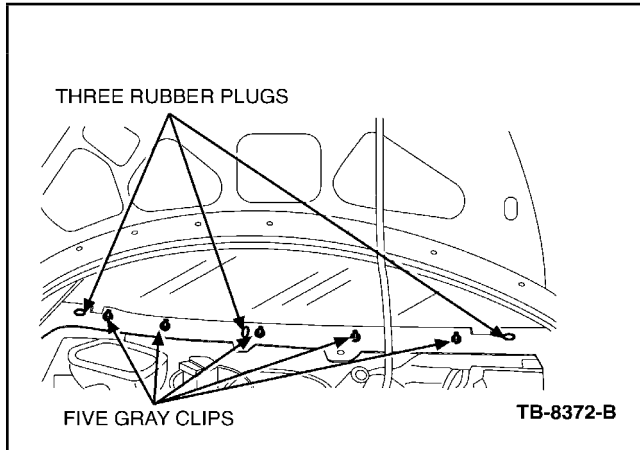

Figure 8 - Article 05-23-7
13. Check that the three (3) rubber plugs and five (5) gray plastic clips are fully seated. Add Clear Silicone Rubber (TA-32, or equivalent) around the three (3) rubber plugs and the five (5) gray plastic clips (Figure 8).